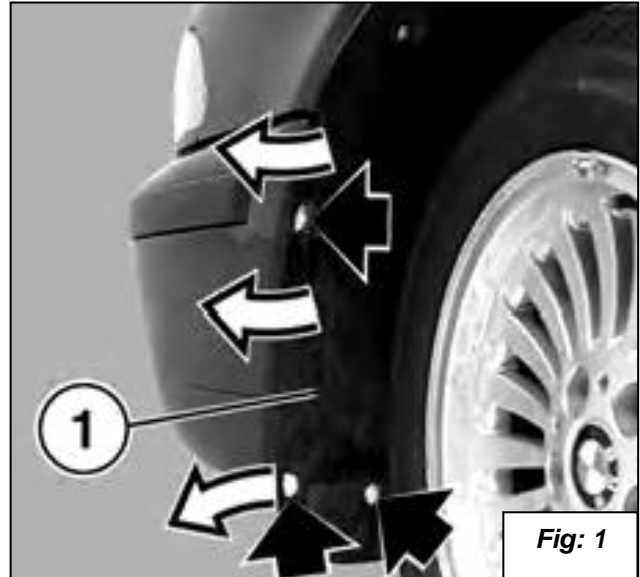

Fig: 1
2. **Normal Bumper:** Remove the three screws on both sides that attach the bumper to the inner fender wells (1). See Figure 1:
5. See Figure 1: In order to separate the bumper from the inner fender wells pull in the direction of the white arrows. Pull the bumper slightly forward, but do not remove! The wires for the fog lights must be disconnected at the fog lights. If the car is equipped with headlight washers then the hose must also be disconnected. Once these have been disconnected then slide the bumper all the way out and set aside. Continue with step 9.